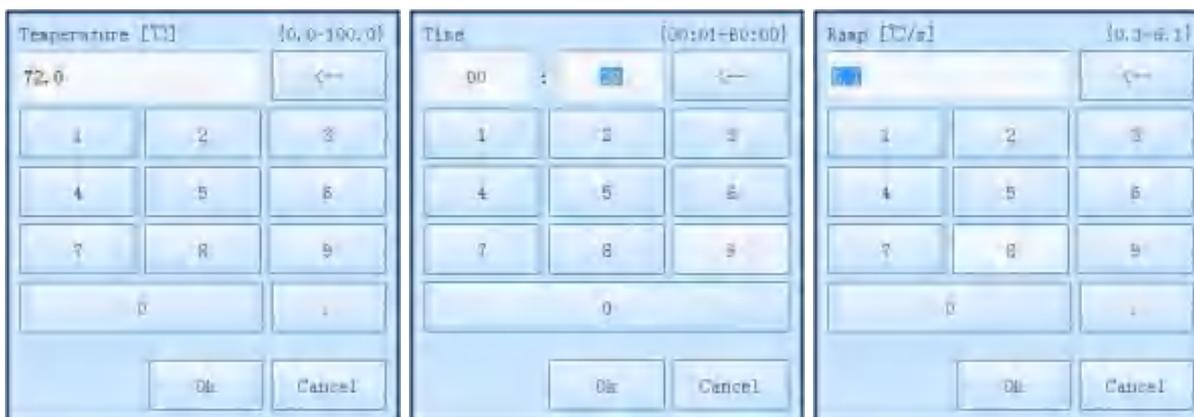

Figure E-3.4a. Step Edit window - Standard step parameter setting
- User can press the input boxes of **Temperature**, **Time** and **Ramp** to edit the corresponding parameters for the current standard step, as shown in figure E-3.4a.